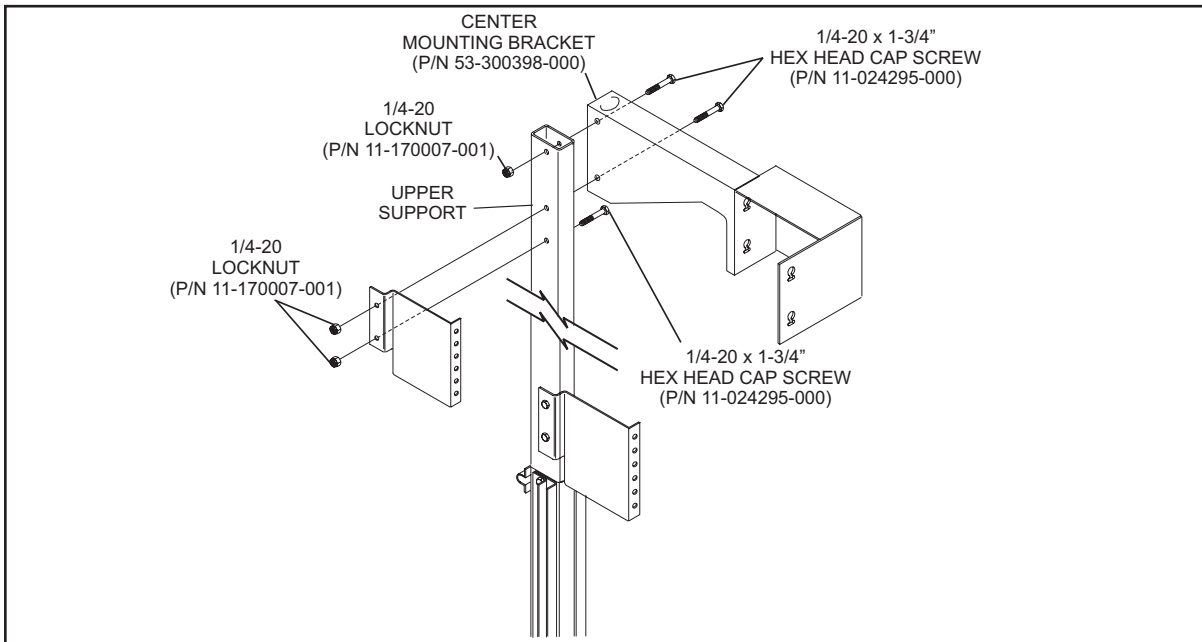

Figure 29
1. Install the intermediate support assembly “C” projection screen mounting bracket and upper graphic standoff. Refer to *Figure 29*.